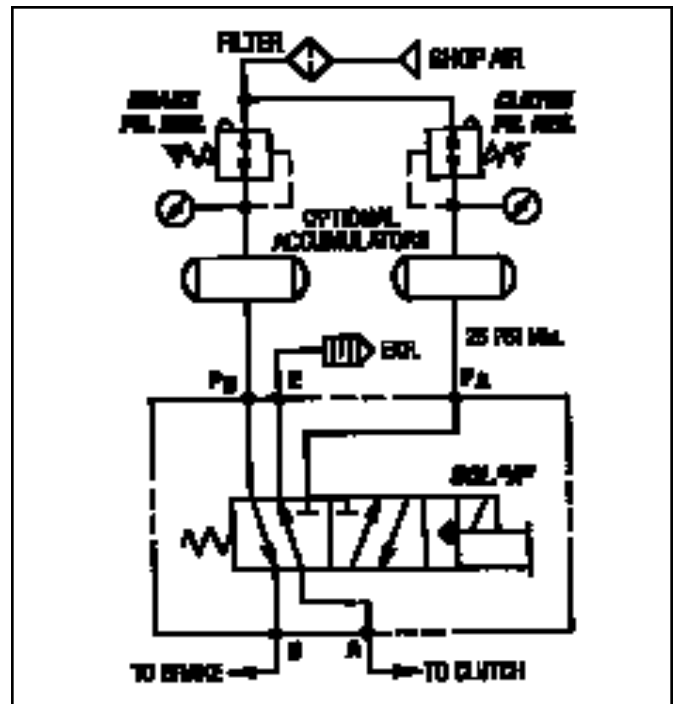

Figure 3.4 - 2PI-3/8 Control Valve without Regulators - Air operated clutch, Spring-set Brake with air assist. (S and SA Logics)
3. The optional accumulators should be used for quick response, particularly if the air line loss and the nature of the air supply is such that recovery is slow. Accumulators can only be used in pneumatic systems where the pressure regulators are installed before the accumulators as shown in Figure 3.4 for the 2PI-3/8 Control Valve. Size the accumulator to be at least 10 times the air required per engagement (See Table 2.1)